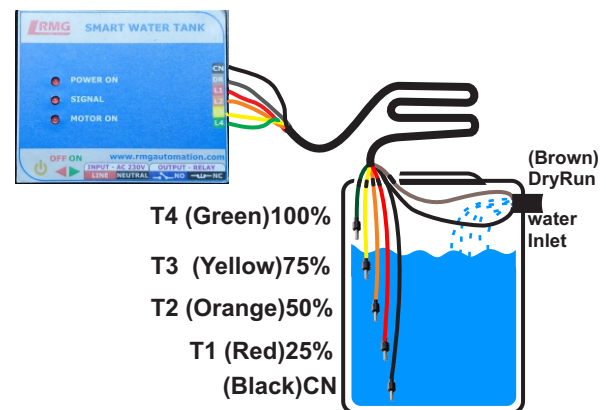

Figure 16: sensor connection
**Step 5:** Lay 6 core cable between controller and tank. Join one end of the 6 core cable to sensor line of controller as per label. In tank side, **Contact type sensor connection:** Take the sensors and cut them according to the levels of tank and join them with the 6 core cable as per label coded. (Refer figure. 16) **Magnetic float sensor connections:** These Sensor has 2 wires, Use any one wire in each sensor as common. Other wires left in each can be used for levels. Join them with the 6 core cable as per label coded.
**Step 6:** Immerse the Sensors inside the Over Head Tank (OHT) and tape it. Sensors should be in 25%, 50%, 75% and 100% of tank. Dry run sensor should be fixed in the inlet of the tank. (Refer figure. 16)